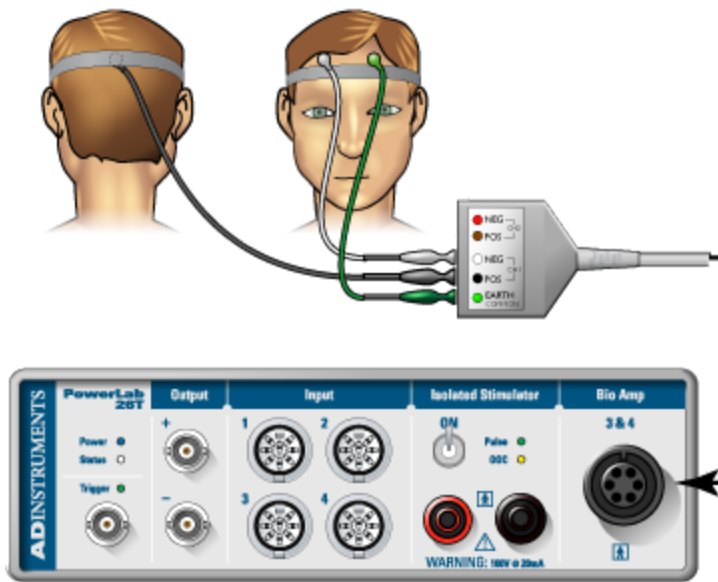

Figure 1. Equipment setup for PowerLab 26T. Image courtesy of ADInstruments ©
2. Connect the 5 Lead Shielded Bio Amp Cable to the Bio Amp Connector on the front panel of the PowerLab (Figure 1). The hardware needs to be connected **before** you open the settings file.
3. Attach the leads of the EEG Flat Electrodes to the Earth, CH1 NEG and POS pins closest to the labeled side on the Bio Amp Cable. Channel 1 "**positive**" will lead to the inion (the bump on the back of the head above the neck) and Channel 1 "**negative**" will lead to the forehead. Channel 2 will be empty and the Earth will lead to the temple. Refer to Figure 1 for proper placement, but do not attach them to the volunteer yet. Follow the color scheme on the Bio Amp Cable.
5. With Figure 1 as a guide, locate where you will place the electrodes. Abrade the skin with the NuPrep Abrasive Gel.
7. While the skin is drying, scoop Electrode Paste into the EEG Flat Electrodes. When the skin is dry, stick the electrodes to the skin (Figure 1). Immediately hold the electrodes and wires in place with the medical tape. Make sure the tape firmly holds the electrodes against the head. Use the elastic bandage to wrap tightly around the head. This will help the electrodes maintain good contact with the skin.